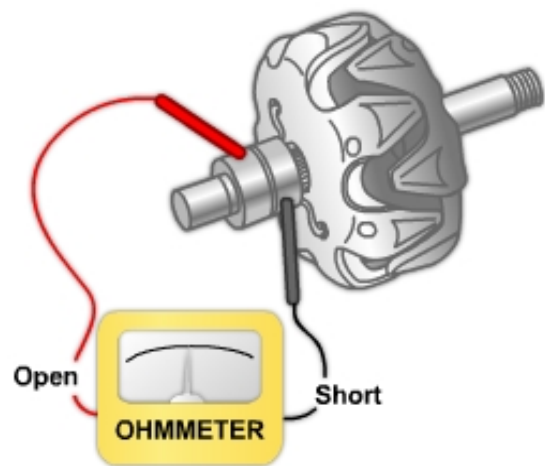

Figure 8-14 — Testing for shorts.
- To check the rotor for shorts and opens, connect the ohmmeter to both slip rings (*Figure 8-14*). An ohmmeter reading below the manufacturer's specified resistance value indicates a short. A reading above the specified resistance value indicates an open. If a test lamp does not light when connected to both slip rings, the winding is open.